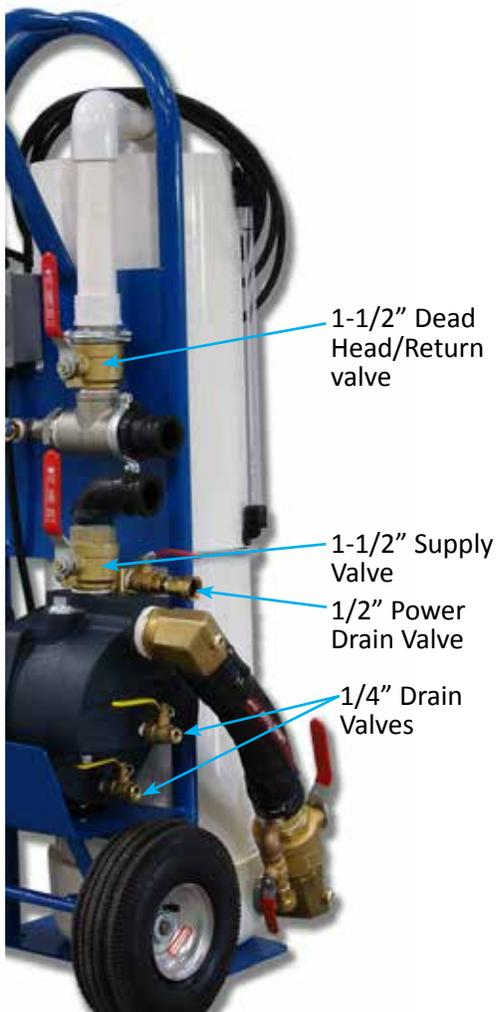

Figure 12: Flush Cart Valves in flushing steps
2. With the pump running, close the 1-1/2" dead head valve (Figure 12) and 2" tank isolation valve (Figure 13), and open the 1/2" fill valve (Figure 13).
4. When the pressure reaches 80-100 psig, close the 1/2" fill valve (Figure 13). Then, open the 1-1/2" dead head valve (Figure 12) and the 2" tank isolation valve (Figure 13) simultaneously.